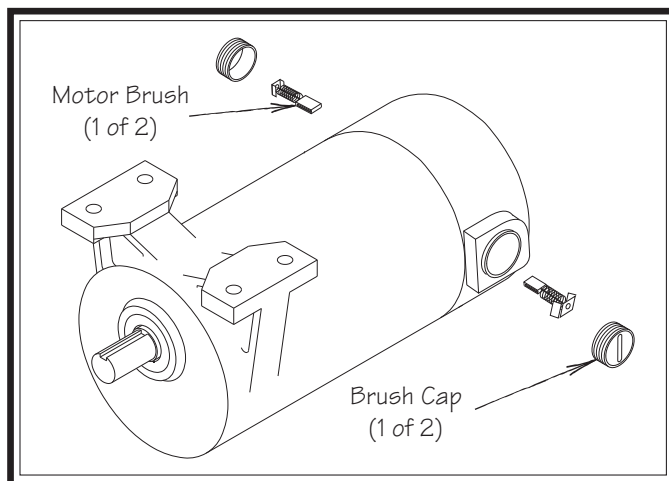

Figure 57. Conveyor motor brush.
5. Carefully insert new carbon brush and spring (see Figure 57), then install brush cover.